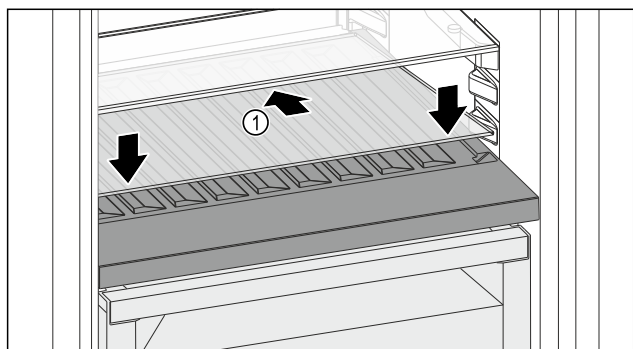

Fig. 176
- Place the glass shelf Fig. 176 (1) at an angle, sloping it downwards and backwards.
- Lower the glass shelf Fig. 176 (1) at the front.